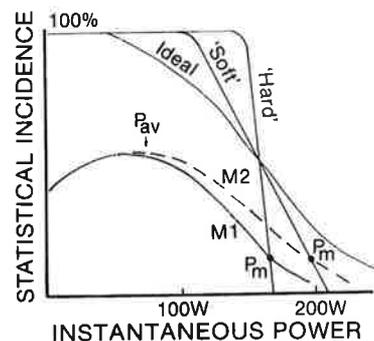

Fig. 4-1. Statistical Incidence of Demand vs. Instantaneous Power.
**4.1.2 Main Supplies.** Electrically, the power supply is the simplest part of the amplifier, but its design presents one of the most difficult tasks, since it must take into account a number of complex factors. Simply put, the designer's problem is to allow the greatest average movement of power to the load at lowest cost under the statistical conditions defined by typical musical program material. Very roughly speaking, cost determines a maximum average power level that can be accommodated by the power supply and output stage together. However, once this level has been set (arbitrarily, alas, for one never has too much power), the behavior of the supply must be fitted to the demands imposed by its intended use. Fig. 4-1 illustrates the behavior of three conceivable power supplies, all of roughly equal total capability, over varying ranges of steady and intermittent load conditions. The well-regulated, 'hard' supply can deliver (in this example) about 150 watts continuously, but power levels slightly higher than this it can provide only at infrequent intervals. The loosely-regulated, 'soft' supply, by contrast, delivers a lower power level under continuous (100 percent) demand, but at low usage rates (such as, for example, the 20 ms pulse every half second prescribed by the IHF Dynamic Headroom test, a usage rate of 4 percent) it can deliver more than twice this continuous power level.
The power demands made by musical program sources are rarely continuous, but rather have a statistical structure. That is, if we break a typical segment of program into 20 ms segments and measure the average power in each segment, we will obtain a statistical distribution of power levels such as shown by the curve M1 in Fig. 4-1. No one power level is called for 100 percent of the time; instead, a middle range of levels is required fairly often, and higher levels are demanded less and less frequently. Theoretically, the power curve is asymptotic to the power axis, but (especially for recorded material) it is reasonable to identify a minimum level of statistical demand, say 4 percent (as in the Dynamic Headroom test) to be accommodated, and associate with it a corresponding maximum required power level,  $P_m$ . The power supply's task may then be defined as that of providing the full range of power levels up to  $P_m$  at (at least) the usage rates given by the incidence-power level curve. It must be able to supply the maximum value,  $P_m$ , but only a few percent of the time, and lower power levels at increasing usage rates.